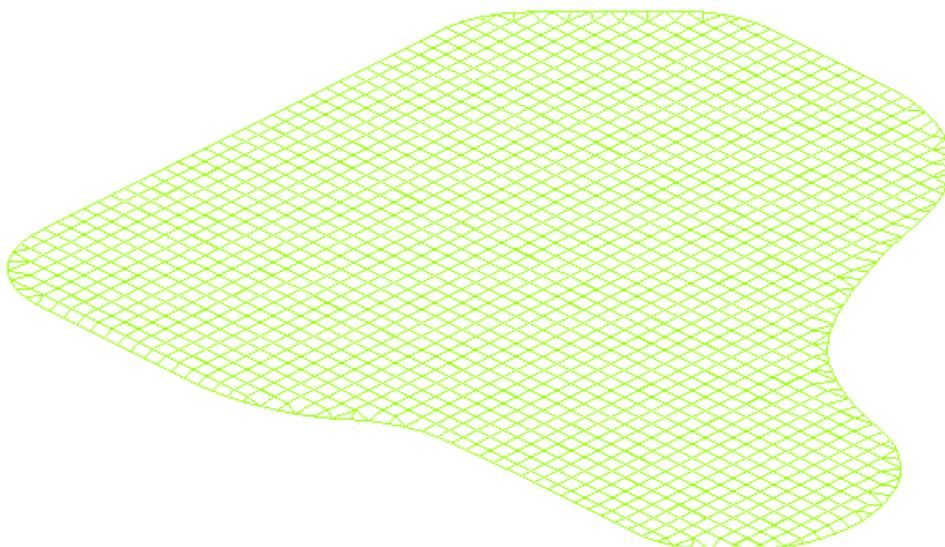

Figure 5.10 Blank meshing
9. Compare the generated mesh with the one illustrated in Figure 5.10.